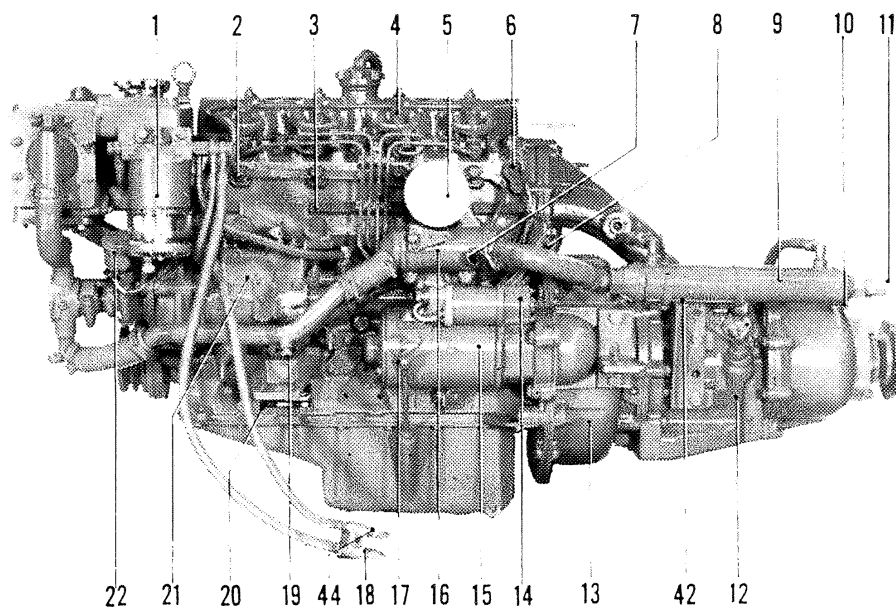
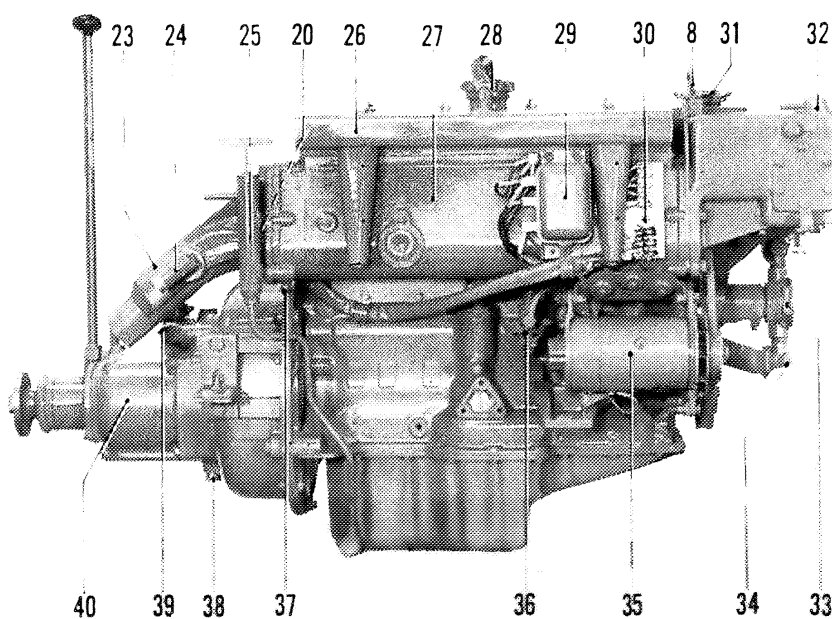
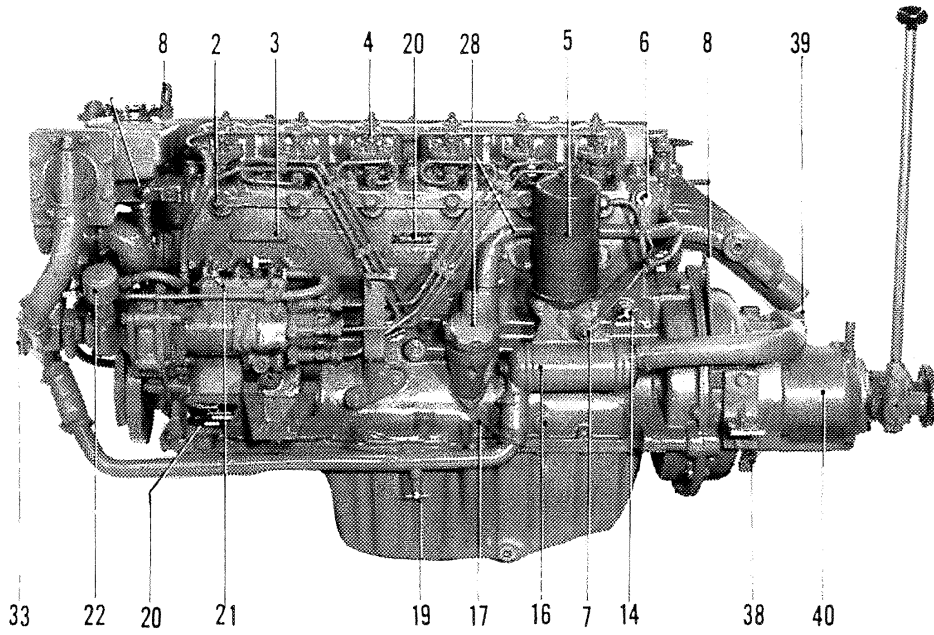
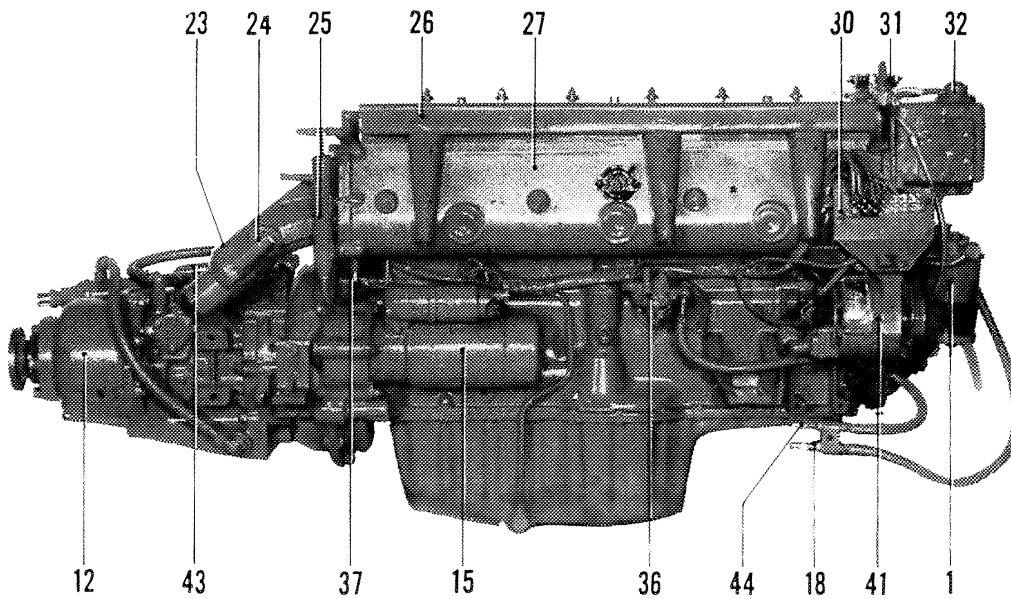

Fig. 1. Port side, MD 21 A with Borg-Warner reverse gear
Fig. 2. Starboard, MD 21 A with RB reverse gear
Fig. 3. Port side, MD 29 A with RB reverse gear
Fig. 4. Starboard side, MD 29 A with Borg-Warner reverse gear
In all correspondence with your dealer and also when ordering spare parts, always state the type designation and serial number of the engine and reverse gear, (see 3, 20, 42 Fig. 1, 20 Fig. 2, and 3, 20 Fig. 3, or 43 Fig. 4).
29. Regulator for generator (behind 30 Fig. 4 on alternator)
When there is risk of frost, the sea-water and fresh-water circuits of the cooling system should be drained in order to prevent cracks in the cooling jackets and pipes. It is advisable to add ethylene glycol to the fresh-water cooling system of the engine after which only the sea-water system requires to be drained. Only ethylene glycol with inhibitors of a well-known make must be used. Drain cocks on four-cyl. see 10, 14, 19 Fig. 1 and 37, 38 Fig. 2 and Fig. 22. Drain cocks on six-cyl. see 14, 19, 38 Fig. 3 and 37 Fig. 4 and Fig. 23. Borg-Warner reverse gear see 10 Fig. 1.